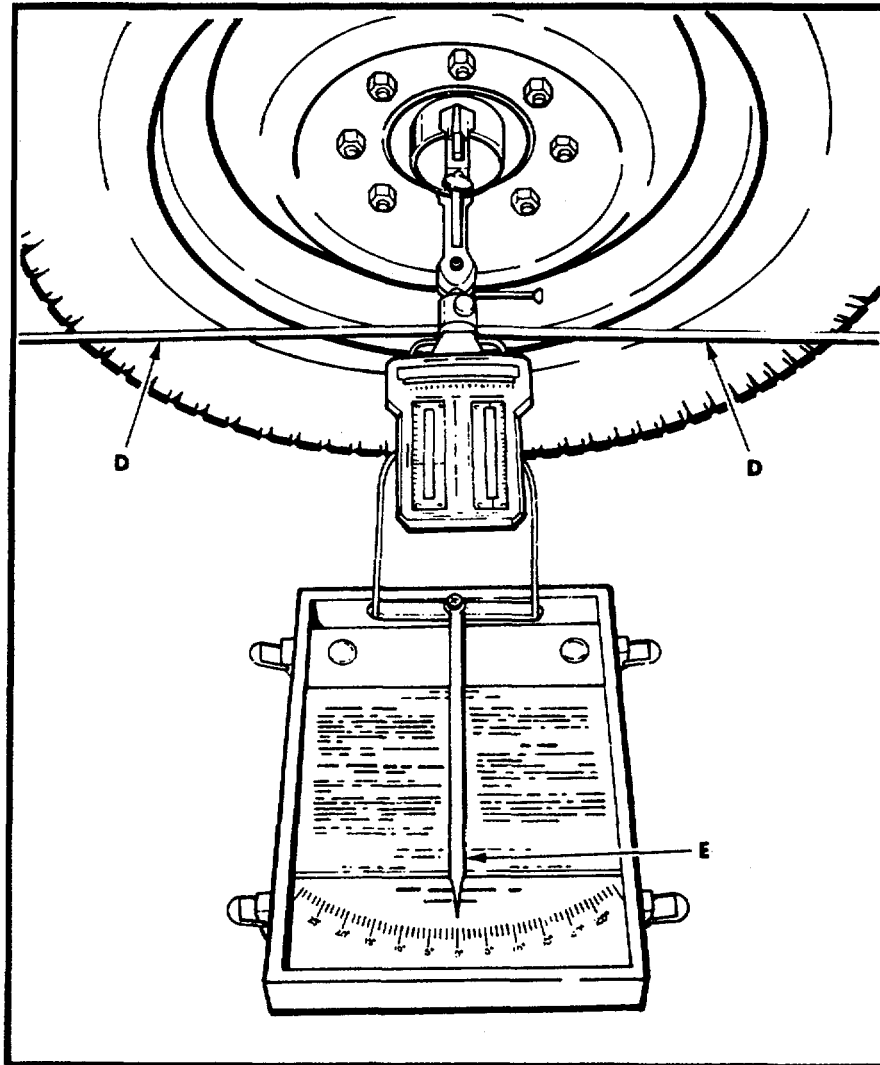

Figure 4.
- Step 2. Place Turning Radius Gauge Boxes one against each front wheel as shown in Fig. 4 Be sure Turning Radius Yoke Rods, D, Fig. 4 are leaning firmly against tires.
- Step 3. Adjust Turning Radius Gauge Box (at each wheel) until Turning Radius Pointers, E, Fig. 4, read directly on zero of scale.